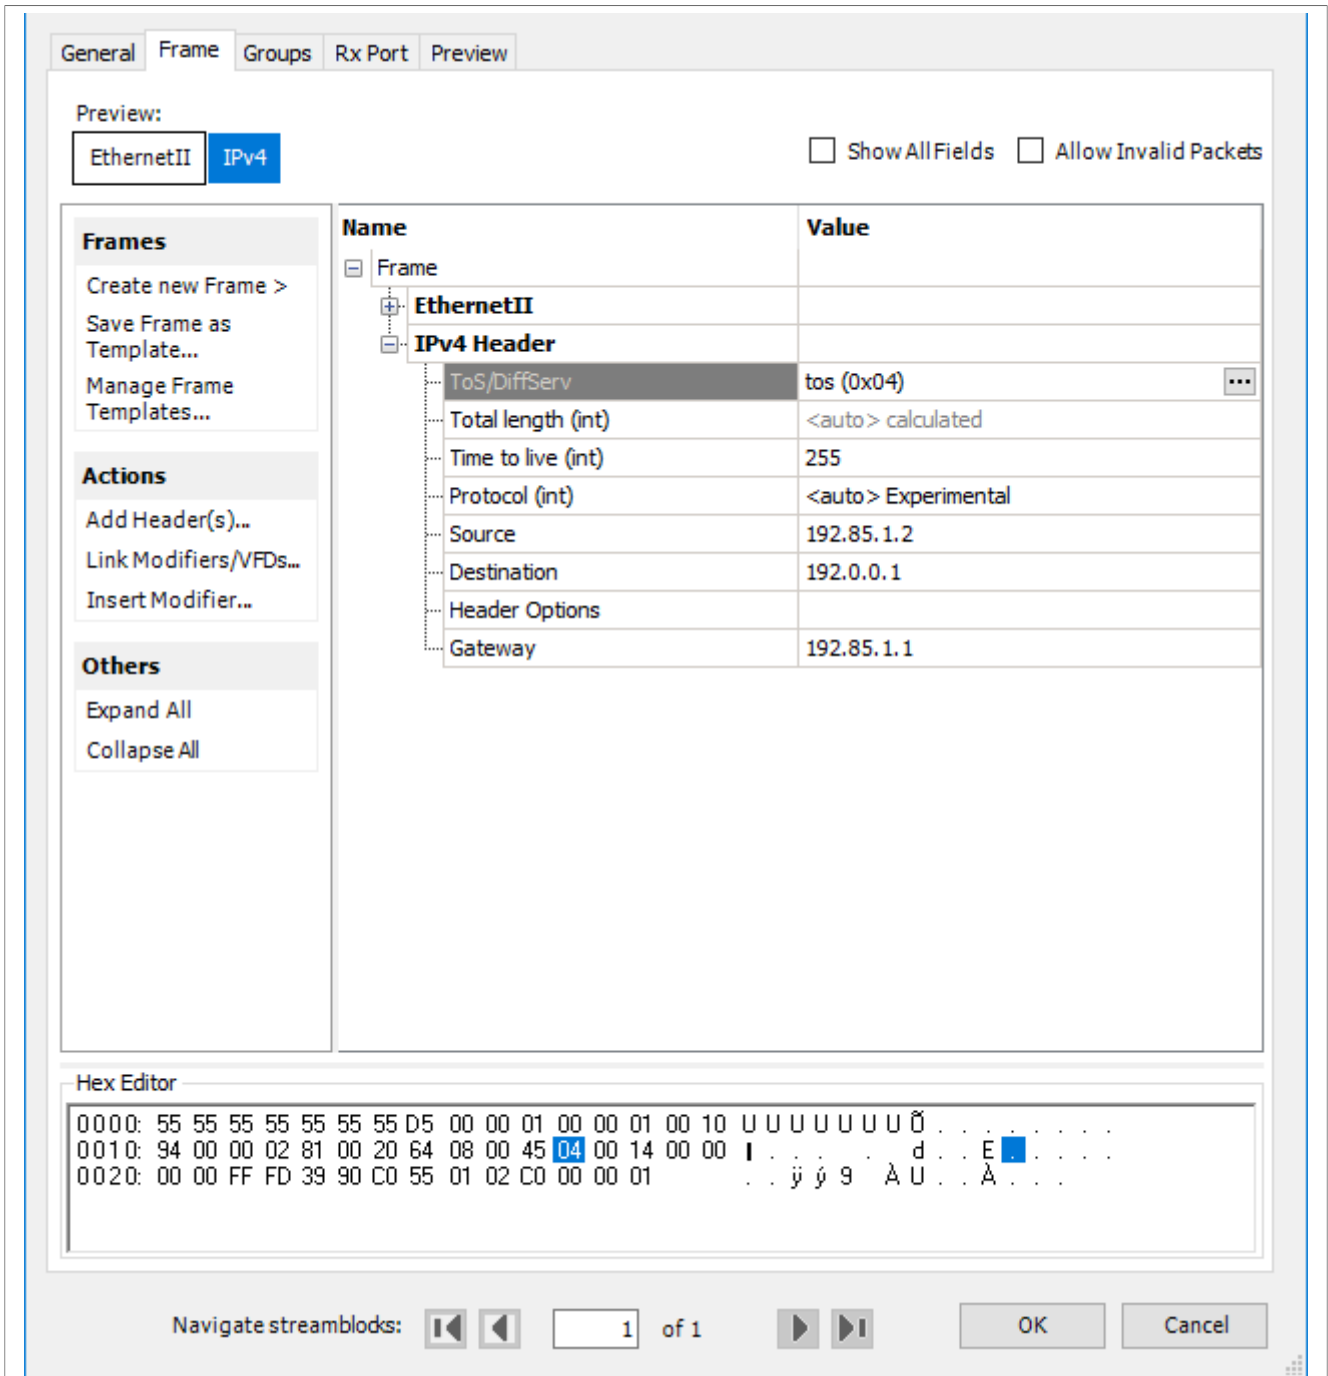

Figure 76. Setting DSCP value on TestCenter
2. Set the DSCP value on TestCenter. DSCP value is the upper six bits of ToS in IP header, set the DSCP value on TestCenter as shown in Figure 76.